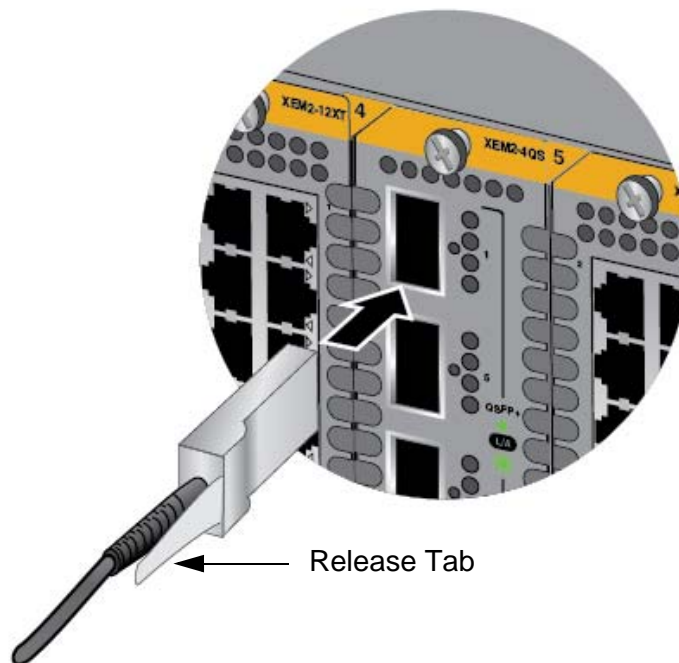

Figure 102. Sliding the QSFP+ Cable into the Slot
- ❑ XEM2-4QS Line Card - Orient the connector on the QSFP+ Cable with the release tab on the left side and slide it into the slot until it clicks into place. Refer to Figure 102.